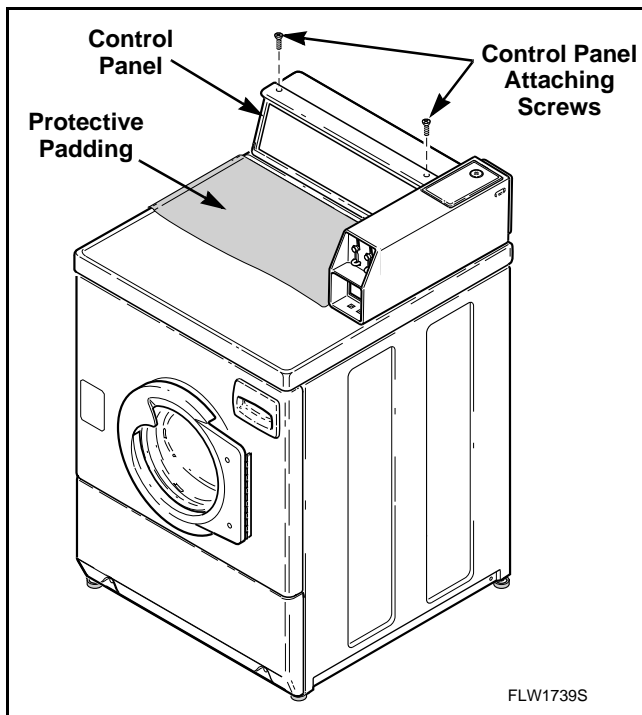

Figure 15
- Remove two control panel attaching screws. Refer to *Figure 15*. Lay assembly forward on protective pad on cabinet top.
- Remove two control panel attaching screws holding control panel to control hood. Refer to *Figure 15*. Lay assembly forward on protective padding on cabinet top.
- (1) Remove two control panel attaching screws. Refer to *Figure 15*. Lay assembly forward on protective pad on cabinet top.
- (2) Disconnect wires from light.
- (3) Squeeze locking tabs together and pull light out rear of control panel.
- a. Remove two control panel attaching screws. Refer to *Figure 15*. Lay control panel assembly face down on protective padding.